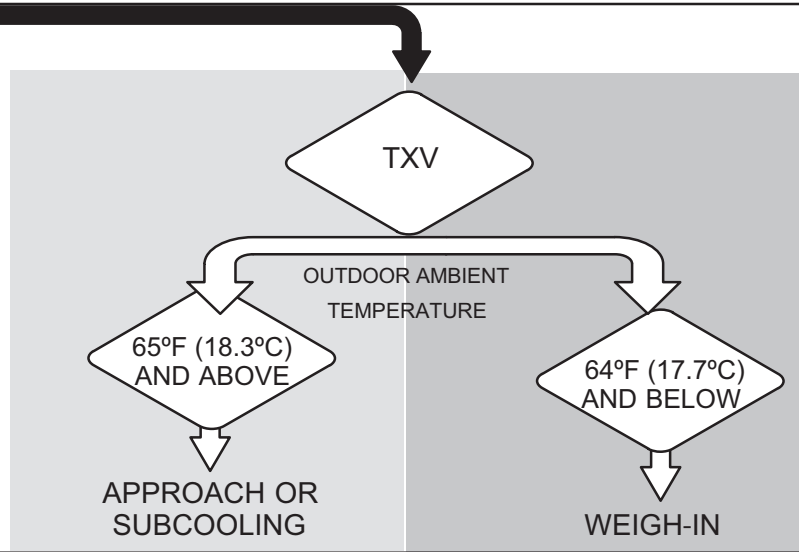

FIGURE 15. Determining Charge Method
Each valve is equipped with a service port which has a factory-installed valve stem. Figures 15 and 16 provide information on how to access and operate both angle- and ball-type service valves.
- 2 - Determine the best method for adding or removing refrigerant as outlined in figure 15.